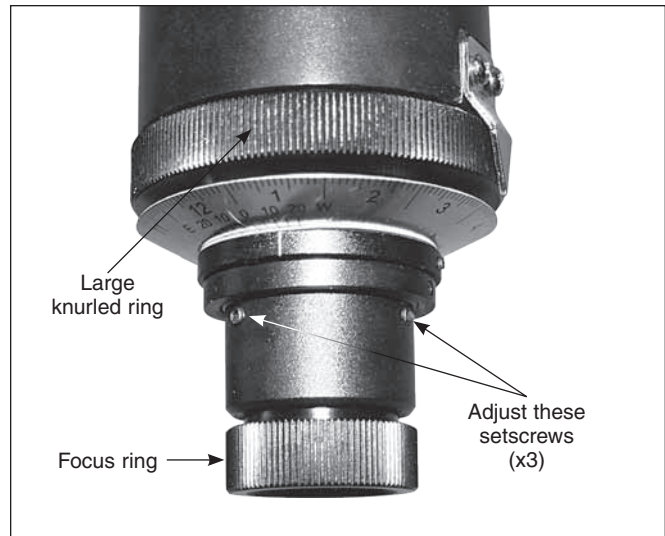
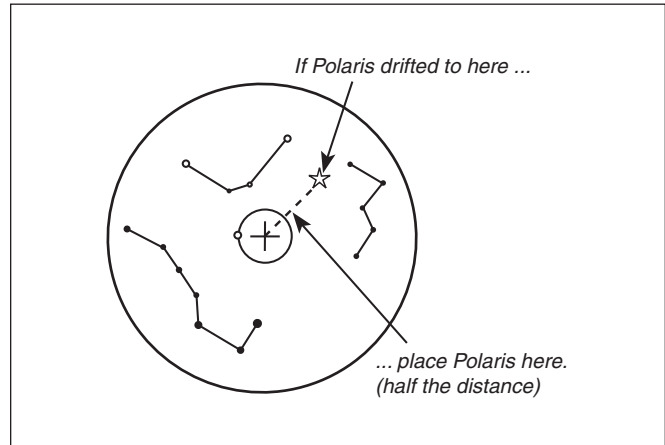

Figure 3. The large knurled ring provides convenient rotation of the reticle.
Figure 4. If Polaris doesn't stay centered when the R.A. axis is rotated 180 degrees, adjust the three small Allen setscrews to move it halfway back to center.
2. Now rotate the large knurled ring on the polar scope exactly half a turn (**Figure 3**).
3. If the object remains at the center of the reticle after the rotation, then the reticle plate is aligned with the polar scope's rotating axis and no adjustment is needed. If the object deviates from the cross, then use the supplied 1.5mm hex key to adjust the three small Allen setscrews on the polar scope (**Figure 3**) to move the object HALFWAY back toward the center of the cross (**Figure 4**).